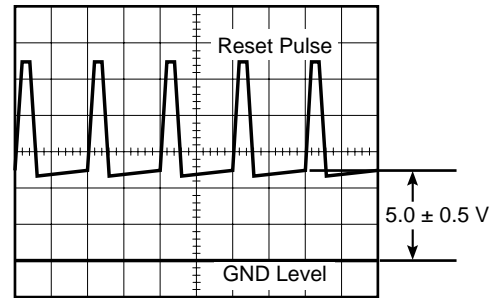

Fig. 5-2
- Adjust VR1 so that the Reset Bias becomes 5.0 ± 0.5 V as shown in Fig. 5-2.